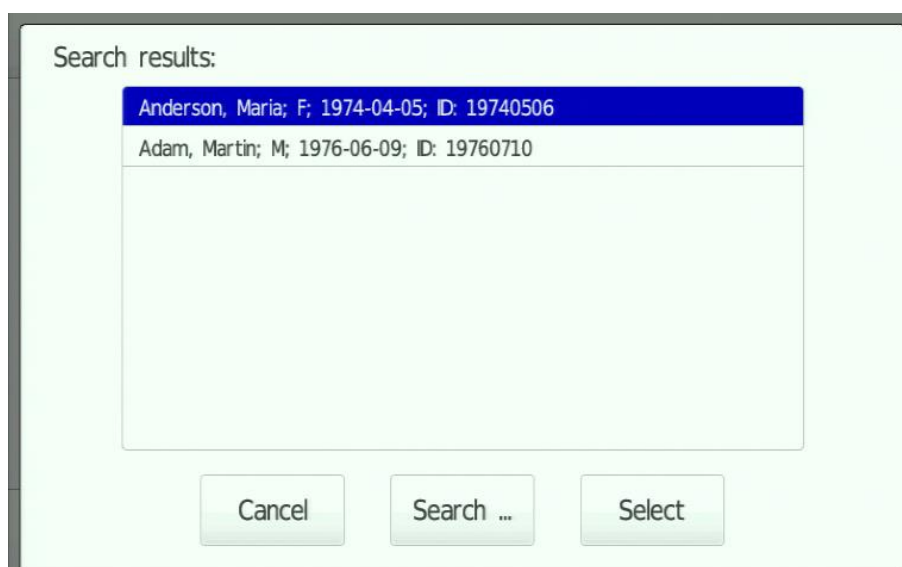

Fig. 24 Patient selection list
- Select a patient from the displayed list (Fig. 24).